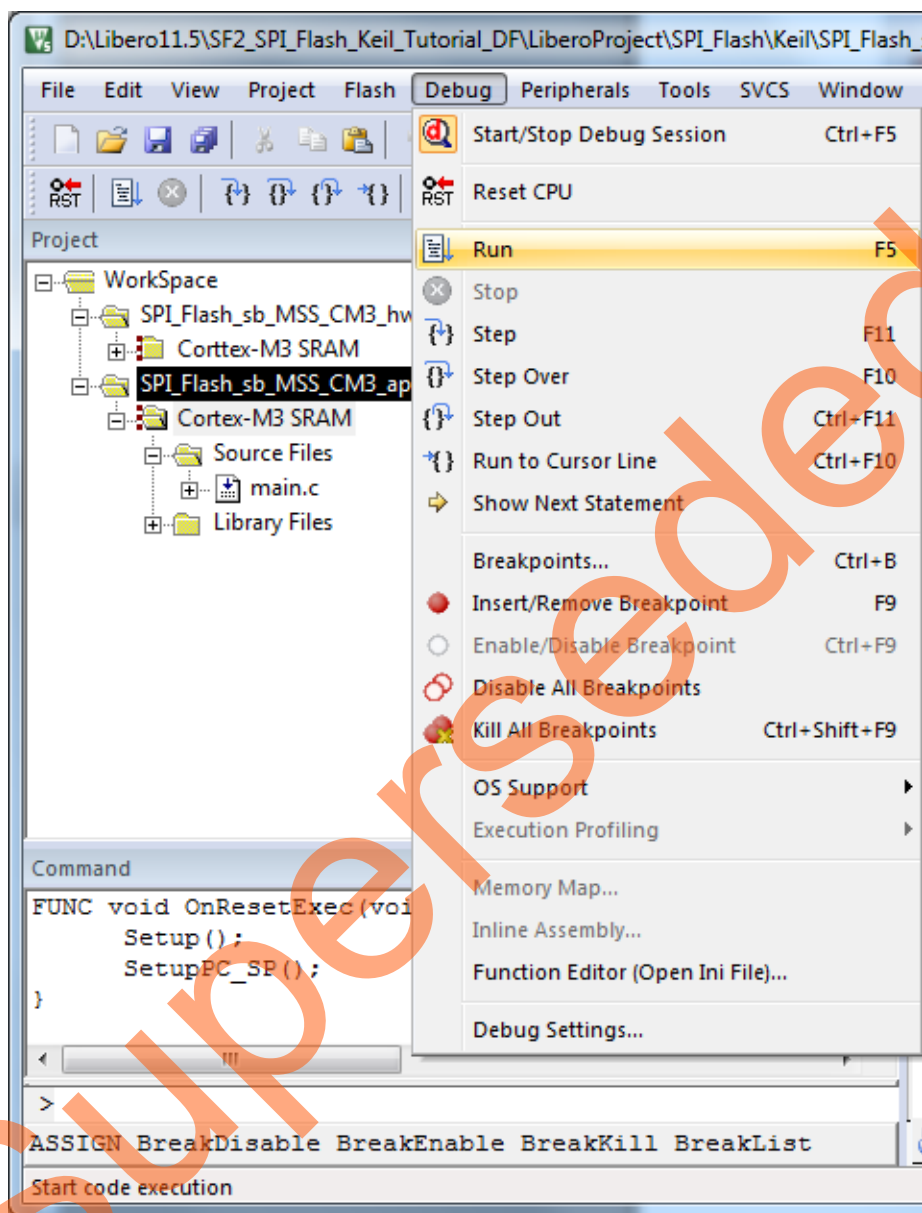

Figure 38 • Selecting Run from the Debug Menu
- Click **Run** from the **Debug** menu as shown in Figure 38.